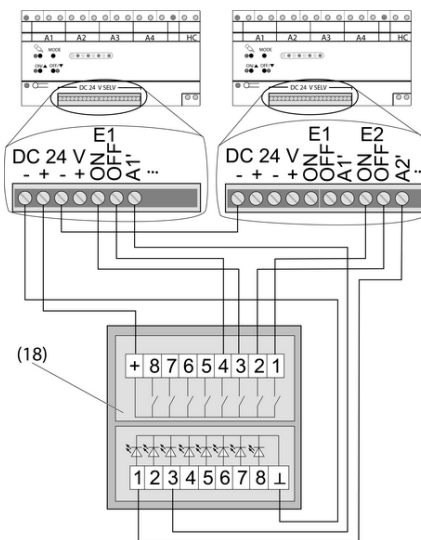
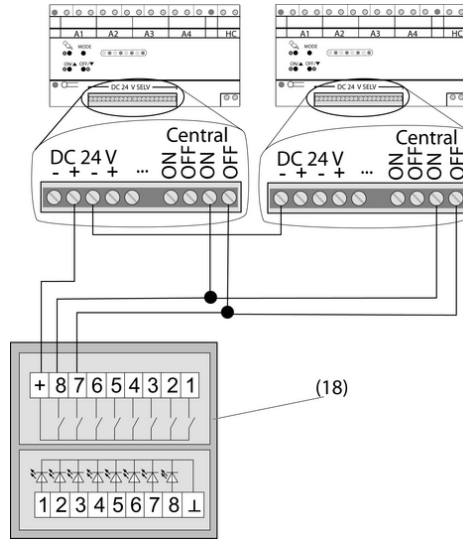

Figure 9: Connection example for one push-button 24 V or push-button module 24 V to two dimmer stations.
Figure 10: Wiring example for Central ON, Central OFF
In operation with push-button 24 V or push-button module 24 V, they can be connected to up to four dimmer stations. To do this, the negative poles of the individual dimmer stations have to be connected to each other. It is possible, for example to switch load outputs of several dimmer stations with a single push-button 24 V (figure 9), or to implement central control of several dimmer stations (figure 10).
- Connect push-button sensor 24 V as shown in the wiring example (figure 9) or (figure 10).